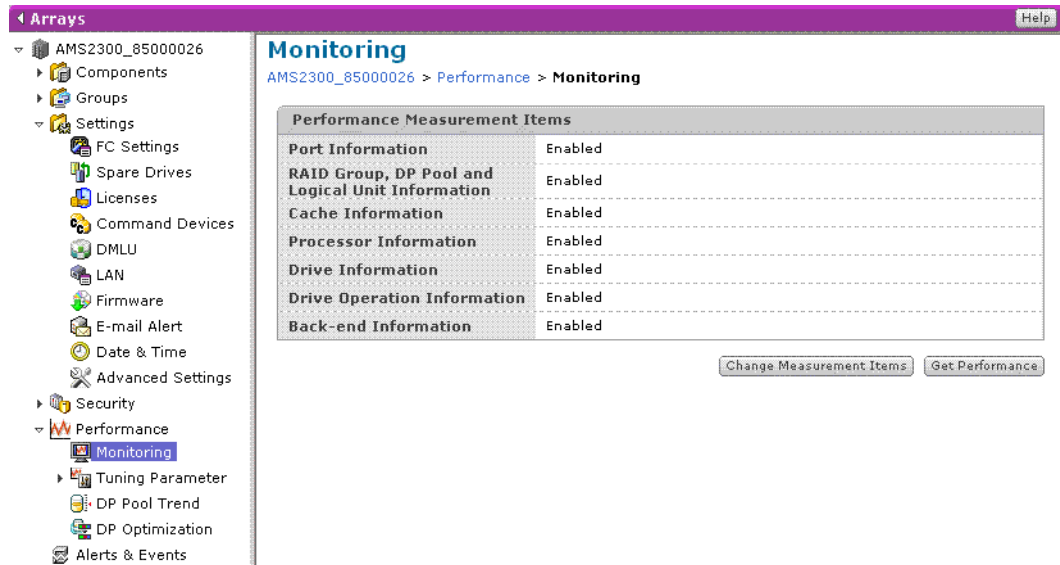

Figure 9-9: Monitoring - Performance Measurement Items
6. Click **Monitoring**. The Monitoring - Performance Measurement Items window displays as shown in Figure 9-9 on page 9-34.